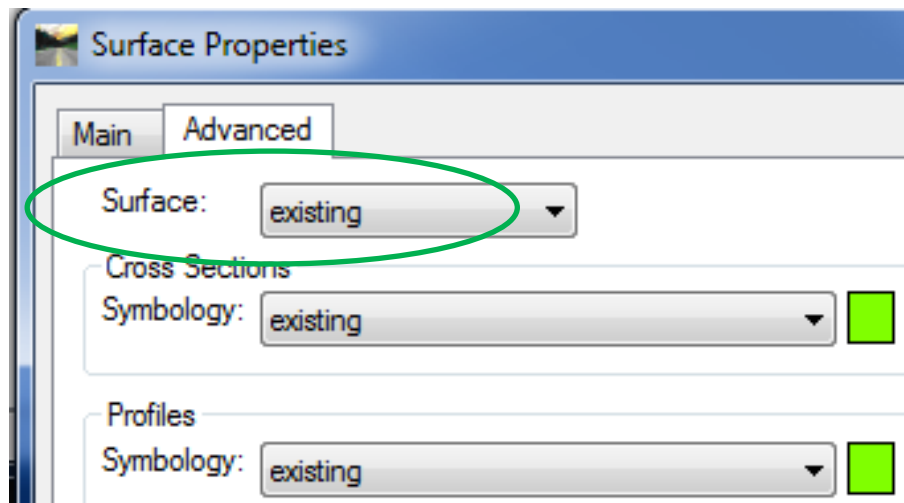

Figure 3-4 InRoads Top Left corner of the Advanced Tab - Surface Properties Dialog Box
- A. On the InRoads Main Menu Select **Surface > Surface Properties**. Select the **Advanced** Tab (Figure 3-4). Write down what appears in the Cross Sections field “Symbology:” this field is case sensitive.